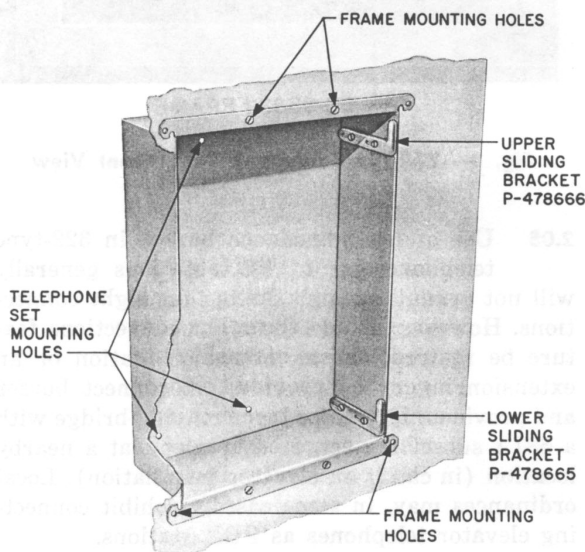
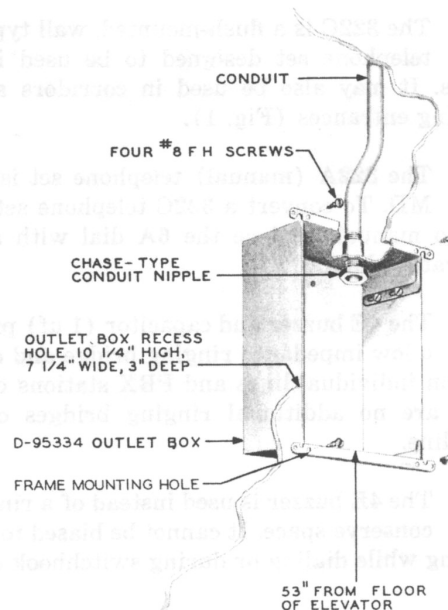
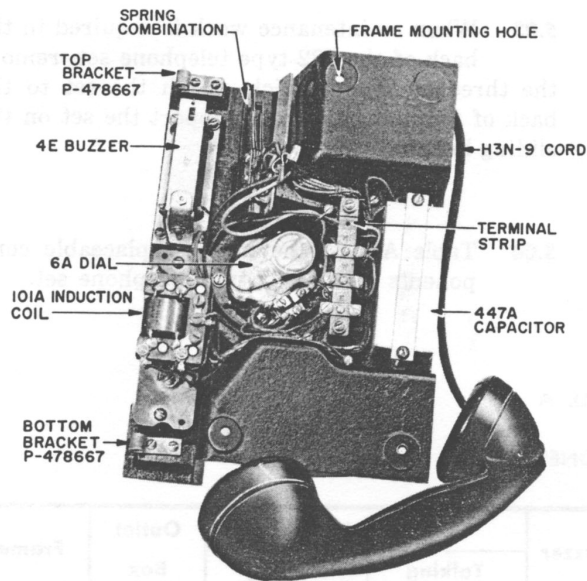

Fig. 2 - D-95334 Outlet Box
Fig. 3 - Mounting of Outlet Box
Fig. 4 — 322-Type Telephone Set, Rear View
3.05 It is recommended that as a general proposition the standard D-95334 outlet box (Fig. 2) be mounted in a recess 10-1/4 inches high, 7-1/4 inches wide, 3 inches deep, and 53 inches from floor as illustrated in Fig. 3.
- 3.12** Two sliding brackets and four filister head machine screws are furnished with 322-type telephone set and are attached to outlet box at locations indicated in Fig. 2.
3.14 To support the 322-type set in a convenient position while making connections or adjustments, turn the set at a right-angle to the outlet box and place the P-478667 brackets (Fig. 4) over the P-478666 and P-478665 sliding brackets (Fig. 2).